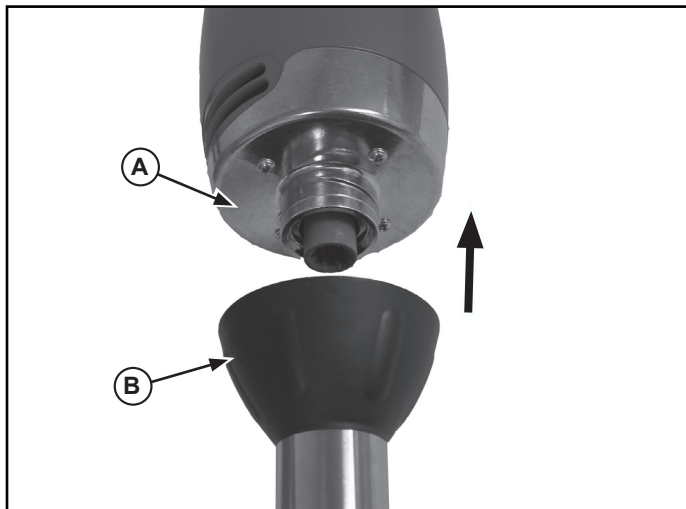

Figure 4. Installing the Attachment Arm to the Power Head.
2. Install the attachment arm (B) to the power head (A) as shown in Figure 4.